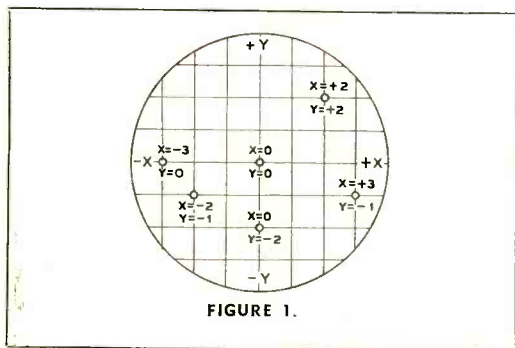
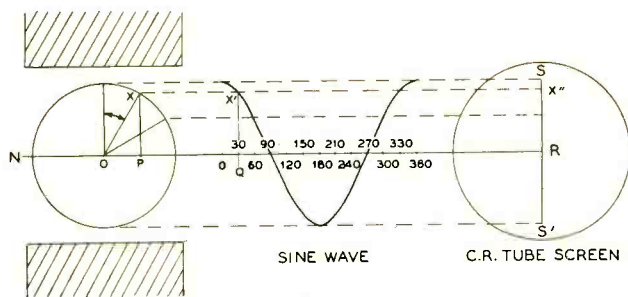

FIGURE 1.
FIGURE 3.
In figures 1 and 2 are shown two simple varieties of bass suppression. They are self-explanatory and can be placed between almost
The bass suppressor shown in figure 1 has a suppression of 6 db at 100 cycles while the arrangement of figure 2 has 0, 4, 6 and 8 db suppression in the four switch positions. The five megohm resistors merely eliminate the loud clicks which otherwise would be heard when varying the suppression.
With the tube in the above position, voltages will put the spot in the relative positions shown in figure 1. The x axis represents positioning due to voltages on the horizontal deflecting plates, while the y axis positions are determined by the potential on the vertical deflecting plates. Two volts positive on each free plate will put the spot in the relative position marked $x = +2, y = +2$.
If the radius of a circle (OX) is swung around the circle, as in figure 3, and the length of the line XR plotted against the angle of rotation, in rectangular coordinates (X'Q), a sine wave is formed. If the radius is a loop of wire between two magnet pole pieces as drawn, it becomes a simple form of the a.c. generator supplying the house mains. When this voltage is placed on one pair of plates, with the other pair shorted, the cathode ray tube sees the sine wave "edge on" just as would be seen by an eye placed at R, looking toward Q. In short, the pattern is a straight line either along the x or the y axis of figure 1 depending upon the pair of plates on which the a.c. is impressed. The line is traced twice during a complete cycle. As is apparent from figure 3, the line follows the peak rather than the average or r.m.s. values of the voltage. The line will be weaker in the center than at the ends because the speed of the dot is greater at the center while it slows down and reverses itself near the ends.
If identical voltages are applied to the two free plates by connecting them together, then the pattern is a straight line. That is, the voltage may reach a positive peak (let us say at the point $x = +3$, $y = +3$, in figure 1, assuming equal sensitivity) on each free plate at the same time. Likewise, the voltage will be zero ($x = 0$, $y = 0$) and at the negative peak ($x = -3$, $y = -3$) at the same times. The resulting line, as will be seen from plotting these points in figure 1, will run from the upper right to the lower left, with the tube oriented as described above. This indicates zero phase between the plates.
When the voltages are equal and 90 degrees out-of-phase, the peak of a half cycle on one set of plates occurs when the voltage on the other set is zero. That is, the spot passes through points $x = +3, y = 0$; $x = 0, y = -3$; $x = -3, y = 0$; and $x = 0, y = +3$, in figure 1. A circle therefore results. If the voltages are unequal, the pattern is an ellipse but its major axis is either horizontal or vertical. Figure 5 shows such a circle, with a waver in it indicating that the waveform is not pure.